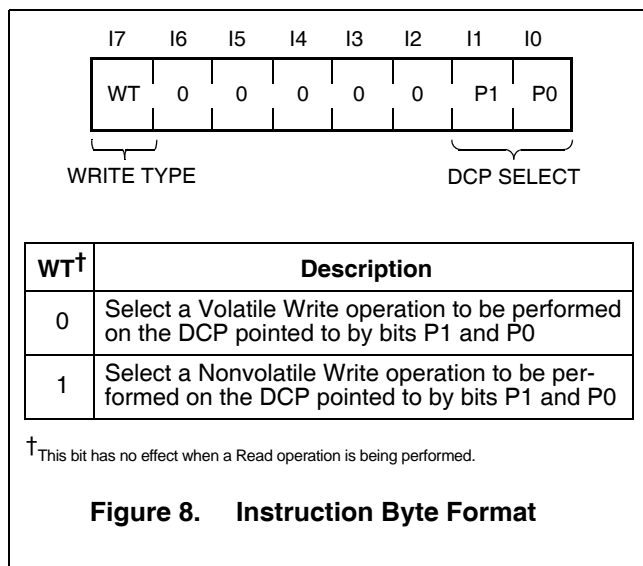

Figure 8. Instruction Byte Format
The Instruction Byte (Figure 8) is valid only when the Device Type Identifier and the Internal Device Address bits of the Slave Address are set to 1010A011. In this case, the two Least Significant Bit's (I1 - I0) of the Instruction Byte are used to select the particular DCP (0 - 2). In the case of a Write to any of the DCPs (i.e. the LSB of the Slave Address is 0), the Most Significant Bit of the Instruction Byte (I7), determines the Write Type (WT) performed.